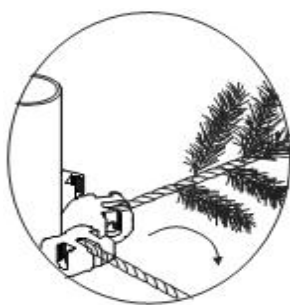

Fig. 5
5. Open all the branches (see Fig. 5).